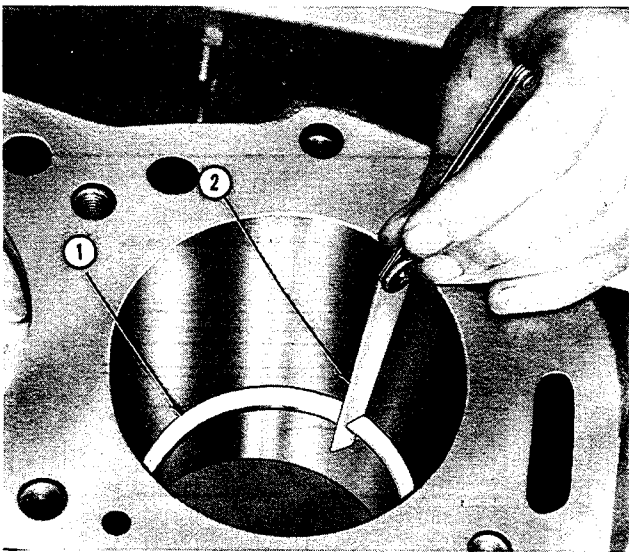

Figure 53
2. Check the gap (see Specifications) between the ends of the ring with a feeler gauge, Figure 53. It is important that all rings have at least the minimum gap clearance to provide for the expansion that occurs when the engine warms up to operating temperature; otherwise, the ring ends may butt together and cause scuffing, scoring, or ring breakage.